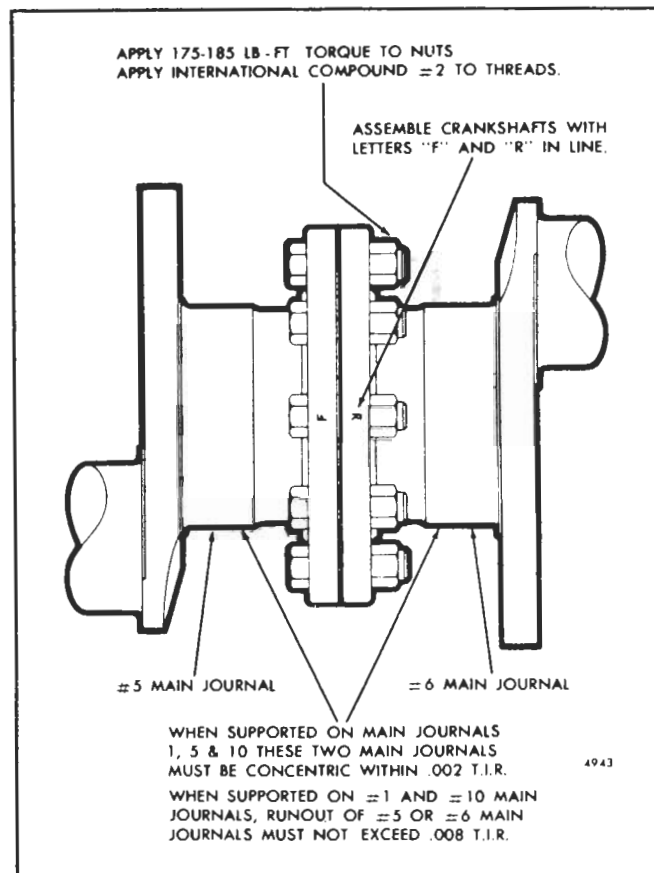

Fig. 9 - Two-Piece 16V Crankshaft Assembly Instructions
- g. Rotate the crankshaft halves until the crankshaft assembly marks "F" and "R" (Fig. 9) are in alignment on the two crankshaft end flanges and install four of the bolts and nuts 90° apart.